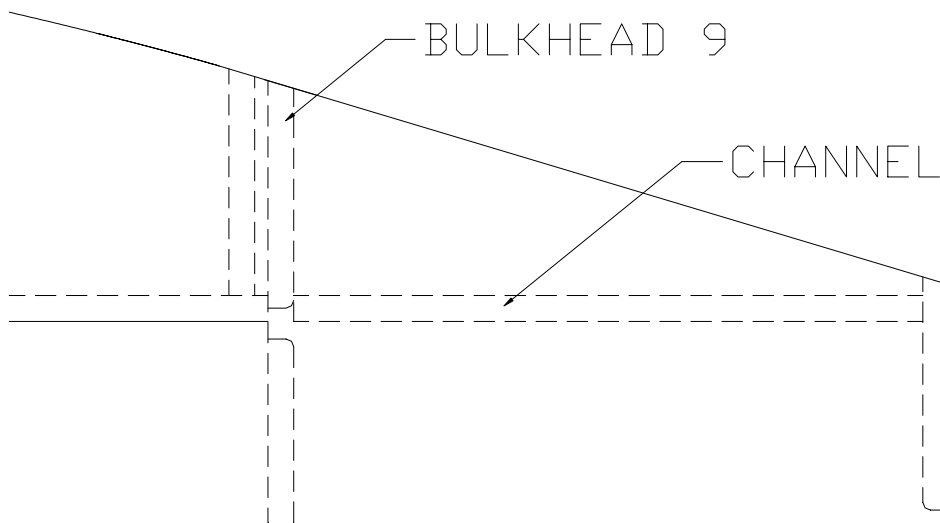

Figure 9.14.5
- 9) Cut a channel from ST-31 to fit between bulkheads 9 and "A" as in Figure 9.14.5. Use angle brackets made from ST-40 material to install the channels.